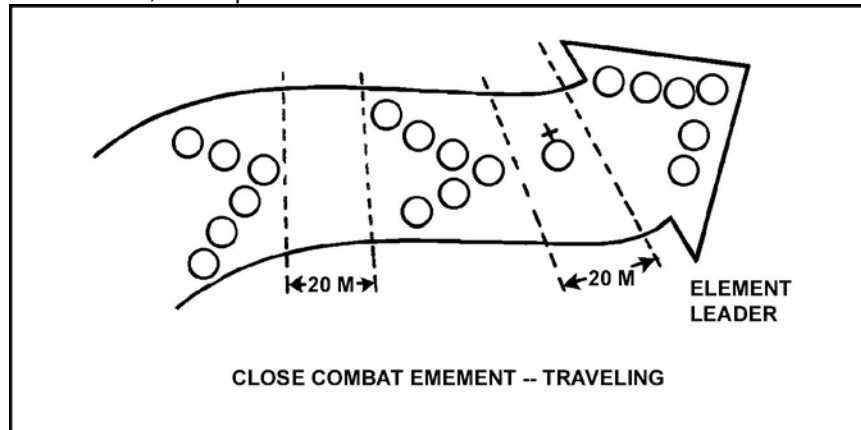

Figure 4. Dismount element--traveling.
- a. Use the traveling technique when speed is important and contact with the enemy is not likely (Figure 4). The dismount element's formation is adjusted to fit the situation. The fire team leaders normally move at the head of their teams so they have better control and can see the dismount element leader. The fighting vehicle element should be in position to support the dismount element, when possible.